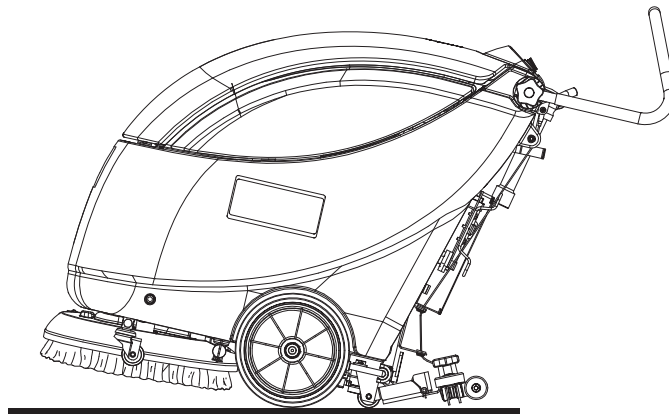

Figure 4
2. Lift the squeegee with the lever (19).
3. Grasp the handlebar (2) and slightly lower it until the rear wheel (7) comes into contact with the floor (Fig. 4). While holding the machine in this position, drive it to the transport/parking area.
4. In order not to drag the brush/pad on the floor and leave wet marks, when finishing working, remove the brush/pad-holder from the deck by using the release device (see the procedure in After Using The Machine paragraph), then place it on the support (30).